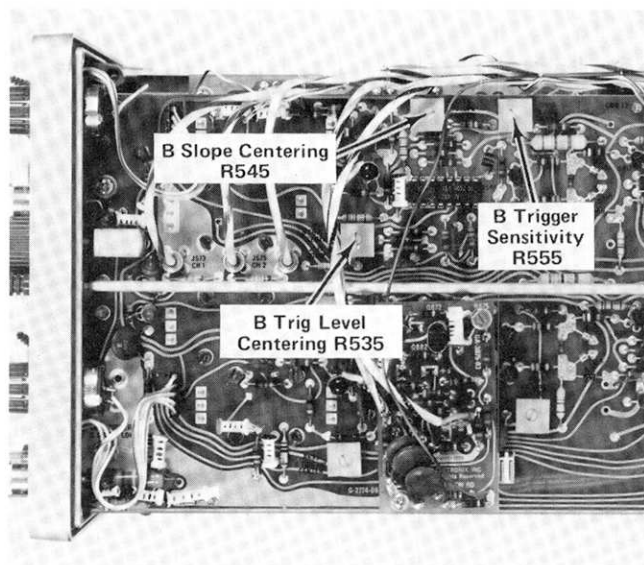

Fig. 5-25. Location of B Trigger Sensitivity, Slope Center, and Level Center adjustments.
e. ADJUST—B Trigger Sensitivity adjustment, R555, (see Fig. 5-25) so that a stable display can just be obtained by rotating the B LEVEL control.
e. ADJUST—B Trigger Level Centering adjustment, R535, (see Fig. 5-25) for the trigger point of the display to be at the graticule center, and adjust the B Trigger Slope Centering adjustment, R545, (see Fig. 5-25) so that the trace begins at the graticule center in both the + and – slope.